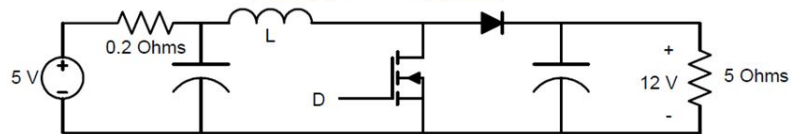

Figure 3.1 Boost converter
5. Figure 3.1 shows a boost (up) converter supplying 12 V to a load of 5  $\Omega$  from a 5 V source having an internal resistance of 0.2  $\Omega$ . Determine the duty ratio D at which the converter operates. (You may neglect semiconductor device drops in your calculations.)